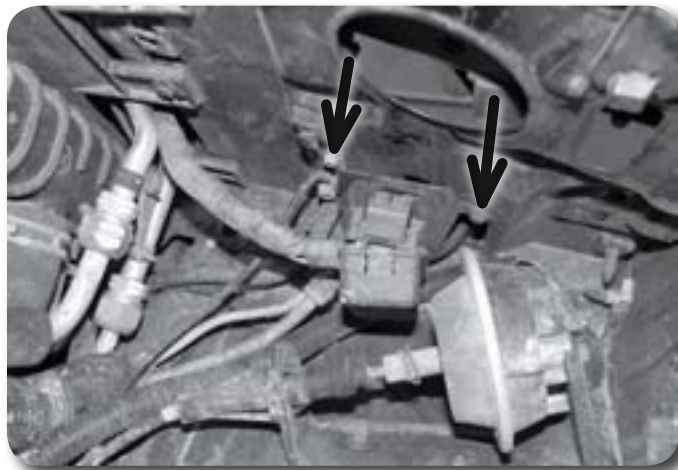

Figure 31
62. **4wd only:** NOTE: This modification is only necessary if the actuator will not bolt up to the original mounting holes as a result of the body lift. Measure and mark $\frac{1}{2}$ " to the inside of the positive battery cable terminal box bracket mounting holes on the passenger's side core support **Figure 31**. Drill a $\frac{1}{8}$ " hole at each of the marks.